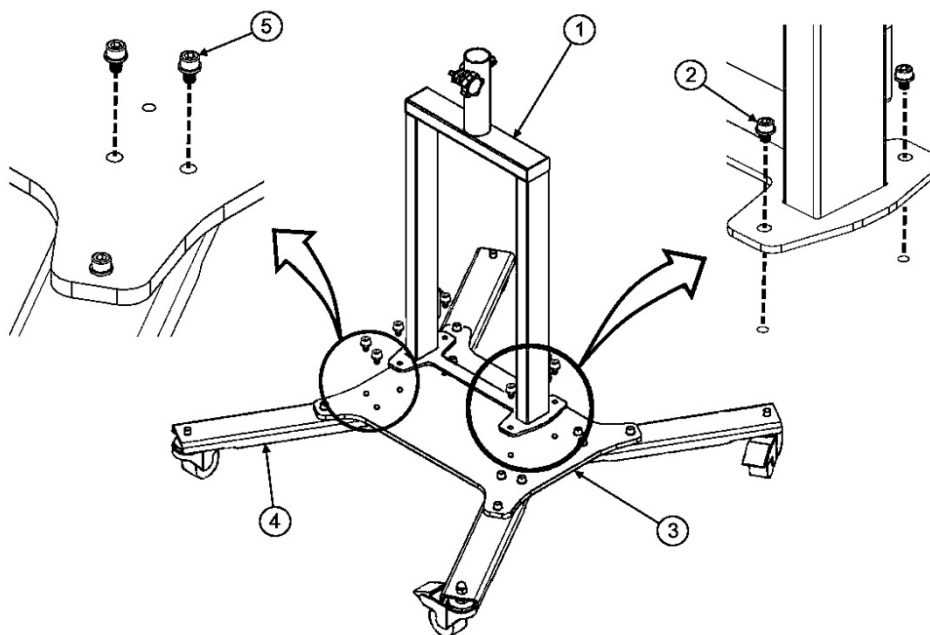

Figure 6 Base Assembly
3. Slide the upper pole (Figure 6, 1) with the attached head angle adjuster over the lower stand pole (3).
4. Affix the upper stand pole (1) to the stand (3) by turning the fixation knob clockwise (2).